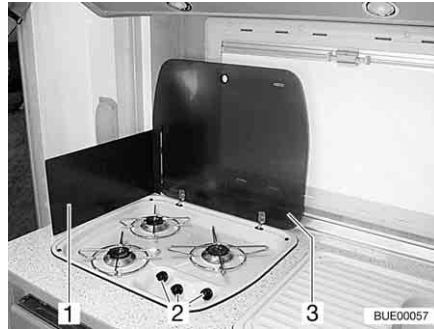

Fig. 179 Gas cooker
- Open the gas cooker lid (Fig. 179,3).
- Depending on the model, either fold out or set up the flame protection (Fig. 179,1).
- Turn the control knob (Fig. 179,2) on the burner you wish to use to the ignition position (large flame).